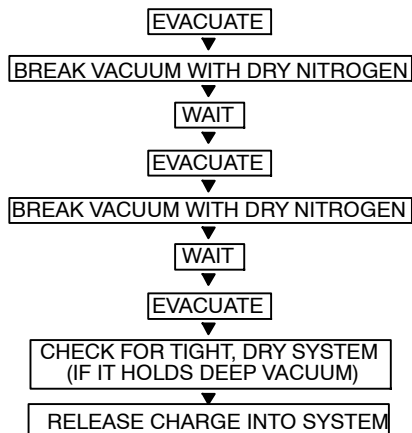

Fig. 17 – Triple Evacuation Method
The triple evacuation process should be used in accordance with the following figure. Refer to Fig. 17 and proceed as follows:
- 5 Repeat this procedure as indicated in Fig. 17. The system is freed of any contaminants and water vapor.